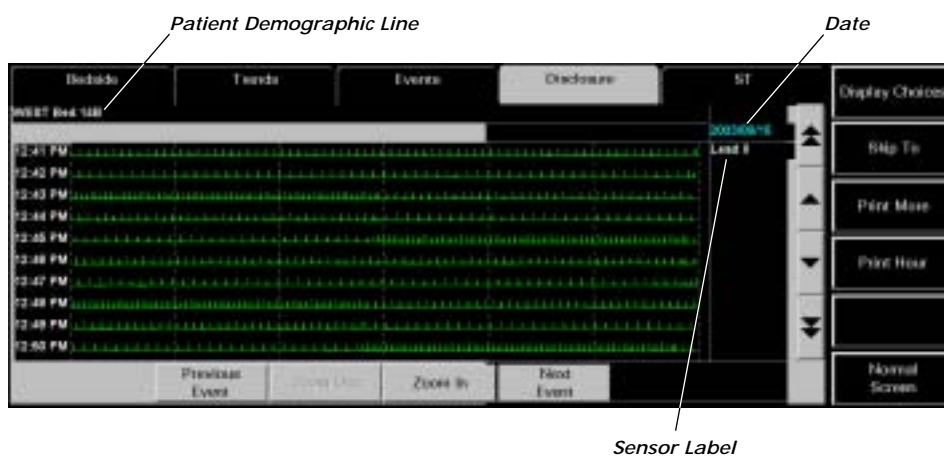

FIGURE 7-10 Zoomed Out View of the Disclosure Tab
2. Select the **Disclosure** tab. The Zoomed Out view of the **Disclosure** tab (FIGURE 7-10) is displayed.
The date on which the selected waveform data was recorded is displayed in the upper right corner of the waveform area (FIGURE 7-10.)
A sensor label for the selected waveform data is also displayed in the upper right corner of the waveform area, just below the date (FIGURE 7-10.)